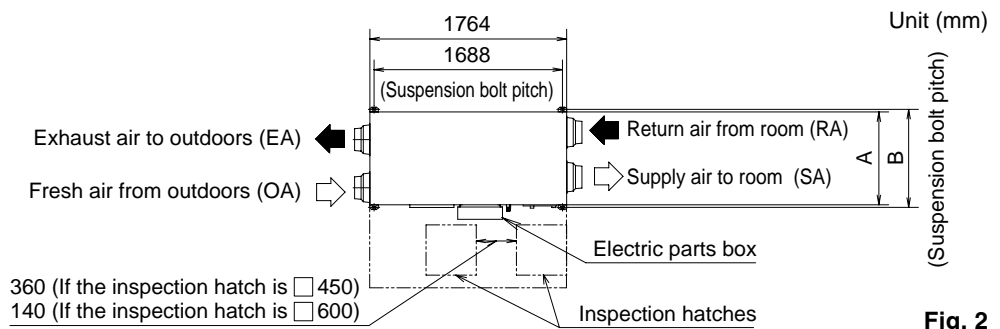

Fig. 2
- 1. Confirm the positional relationship between the unit and suspension bolts. (Refer to Fig. 2)**